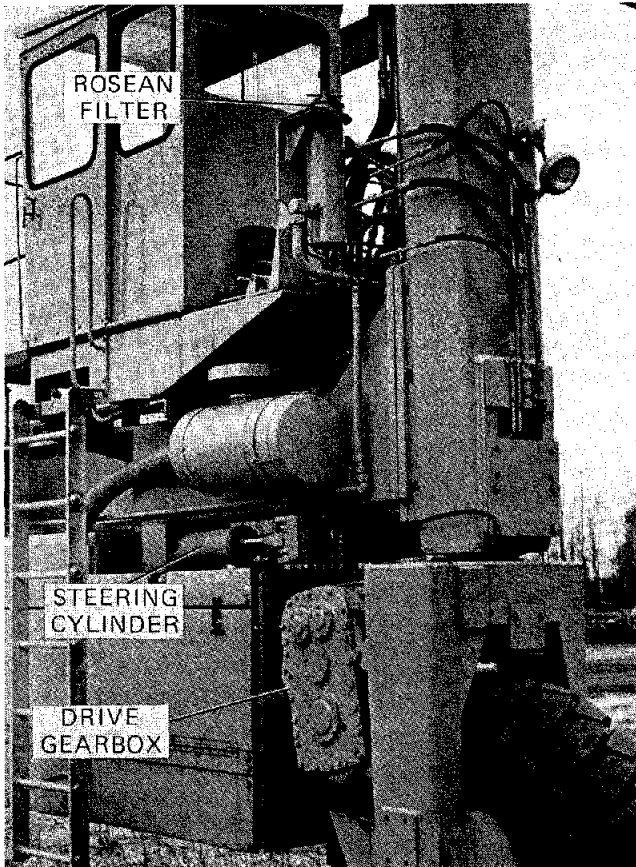

Figure 21. Left Rear Column
4. Fill the Rosean hydraulic filter (Figure 21) with clean fluid prior to starting engine.
- b. Bleed hydraulic lines at the lower corner of all four vertical columns (see Figure 21).